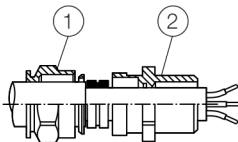

Figure 2: Tighten cable glands
IP rating IP66 / 67 is only achieved by installing the black neoprene sealing ring between the cable gland and the housing and by observing the tightening torque of 3.6 Nm (Figure 2, item ②).
5. Tighten the cable gland until the cable is firmly enclosed by the sealing ring (Figure 2, item ①). Do not tighten more than 1.5--times of the specified torque on the housing (see assembly instructions for cable gland)!